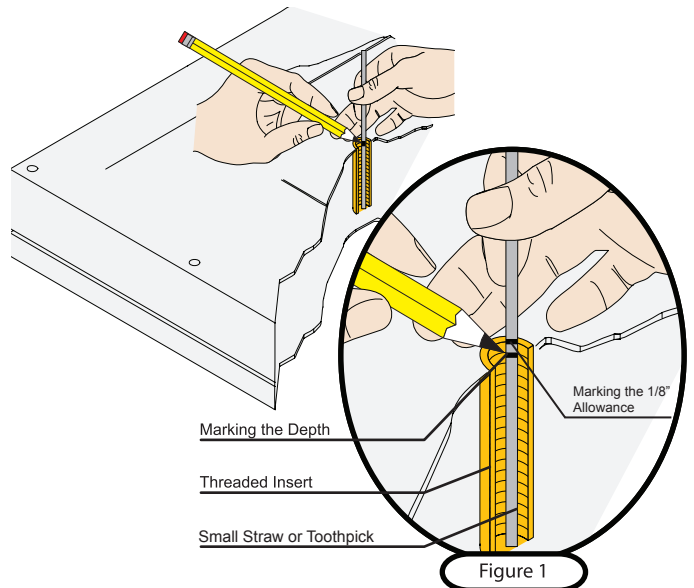

Figure 1
- 3) Mark the straw or toothpick  $\frac{1}{8}$ " above the depth of the threaded insert, as shown in Figure 1.